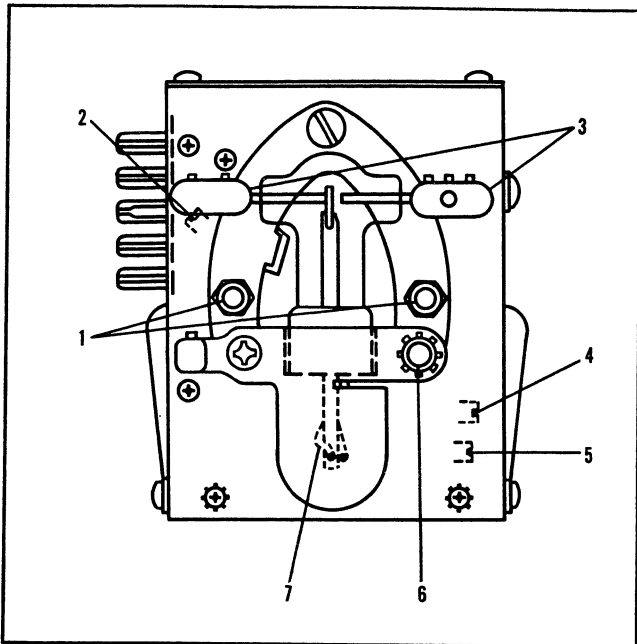

Figure 5-11. Keying Relay K102 and Vacuum Contact S116
(1) Loosen the setscrews that hold the connecting wires to the fixed contact terminals (No. 3 in fig. 5-11), and remove the wire connector.
(2) Loosen the stud (No. 6 in fig. 5-11) until the clamp around the base of the vacuum contact becomes loose enough to allow the removal of the glass vacuum tube. Remove the tube containing the switch by pulling glass tube straight up.
(3) Note the split collar on end of glass operating arm that connects vacuum contact to relay case. Loosen setscrew in this collar so that collar is loose on its shaft.
(4) Before attempting to install the new vacuum switch, note the manner in which the movable switch arm (extending out of bottom of glass bulb) engages the wire actuating arm (No. 7 in fig. 5-11). When installing the new switch, the arm of the switch must be securely engaged between the two wires that form the actuating arm (No. 7 in fig. 5-11). To prevent damage to the new switch, it is recommended that the two wires forming the actuating arm, be spread apart very slightly while the vacuum switch arm is being engaged. This may be accomplished by using a screw driver blade to spread the wires approximately 1/32".
(5) Place rubber gasket in position and insert new vacuum switch in socket. Be sure movable switch arm is securely engaged in wires of operating arm No. 7.
(6) Retighten stud (No. 6 in fig. 5-11) and reconnect wires to terminals labelled No. 3 in figure 5-11.
(7) With relay in normal unoperated position, the vacuum contact (in glass bulb) should be closed and resting firmly against the fixed contact that is connected to RECEIVER terminal of transmitter. To se-
(8) The timing adjustment of the vacuum contact can now be made. Remove top cover of keying relay case by taking out two Phillips screws on the top surface.
(9) Examine the interior of the relay and note double row of contacts near top. Also note that movable contact arms are all attached to a thick bakelite plate located in the center of the case. By using a thin tool, with a notch in one end, that is capable of straddling this bakelite plate, it is possible to grip the bakelite and operate the relay mechanically by pushing the plate from side to side. Note that as this bakelite plate is moved, all movable contact arms in the relay as well as the movable arm in the vacuum contact will also move.
(10) With the relay in the normal "rest position," three internal relay contacts, on the side nearest the plug, are closed and the vacuum contacts (in external glass bulb) should now be resting firmly against the fixed contact that connects to the RECEIVER terminal on the side of transmitter case.
(11) If vacuum contact is not set properly, loosen two studs (labelled No. 1 in fig. 5-11) that hold horse-shoe shaped yoke to relay case.
(12) Note adjustment screw (labelled No. 2 in fig. 5-11) that can be seen through hole on plug side of case. By rotating this screw, the position of the movable arm in the vacuum contact can be adjusted as desired.
(13) After vacuum contact has been adjusted to correct position while relay is in rest position, the relay should then be operated mechanically (as described in step No. 9) and the action of the vacuum contact and the 5 normally open contacts on the interior of the relay case should be noted.
(14) As the relay is operated mechanically, the correct sequence of contact make and break is as follows:
(15) If above sequence is not obtained, further adjustments of screw labelled No. 2, in figure 5-11 is
(16) After adjustment has been completed, re-tighten two screws labelled No. 1 in figure 5-11.